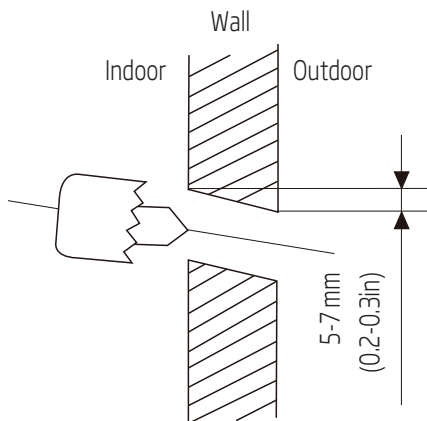

Fig. 5.2
2. Using a 65-mm (2.5in) core drill, drill a hole in the wall. Make sure that the hole is drilled at a slight downward angle, so that the outdoor end of the hole is lower than the indoor end by about 5mm to 7mm (0.2-0.275in). This will ensure proper water drainage. (See Fig. 5.2)